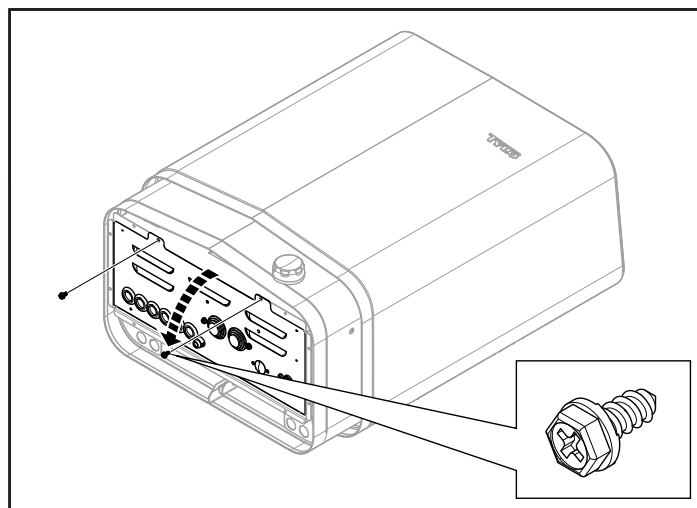

Figure 7: Opening/closing the cover
2. Undo the screws and open the cover (see Figure 7).
7. Close the cover and tighten the screws (see Figure 7, page 9).